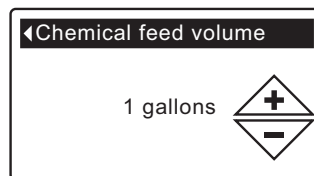

FIG. 81
7. Press the SELECT (O) button to display the Chemical feed volume or Chemical feed timer menu (See Figures 81 & 82).